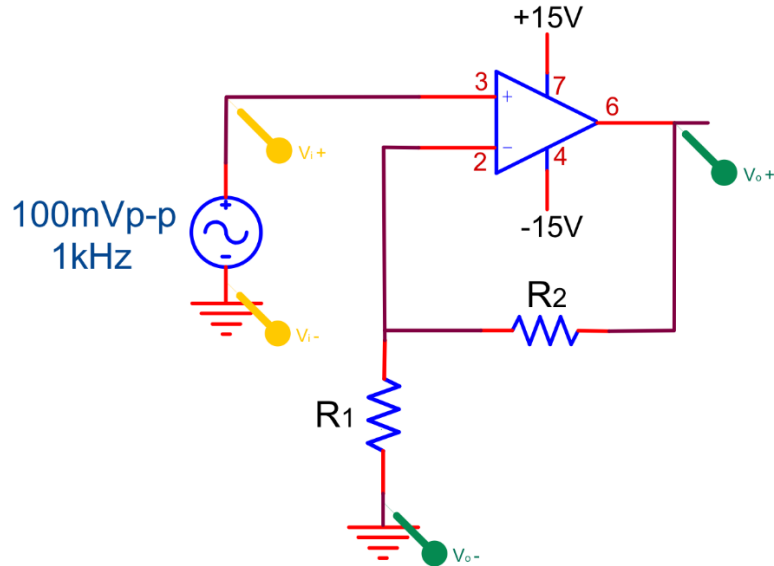

Figure 1.13
4. Build the non-inverting amplifier (Figure 1.13) with the same resistors used in the lab for a gain of 1. Capture the wave forms of v_i and v_o . Once you have obtained the values calculate the gain and compare it to your measured values.
5. Build the non-inverting amplifier (Figure 1.13) for a gain of 100 with the same resistors used in the lab. Capture the wave forms of v_i and v_o . Once you have obtained the values calculate the gain and compare it to your measured values.
6. Simulate the roll off frequency using the AC Sweep function for both gains of 10 and 100 for Figure 1.13. The range of frequencies to sweep should be from 1k to 1MEG, it might be necessary to extend past a MEG.